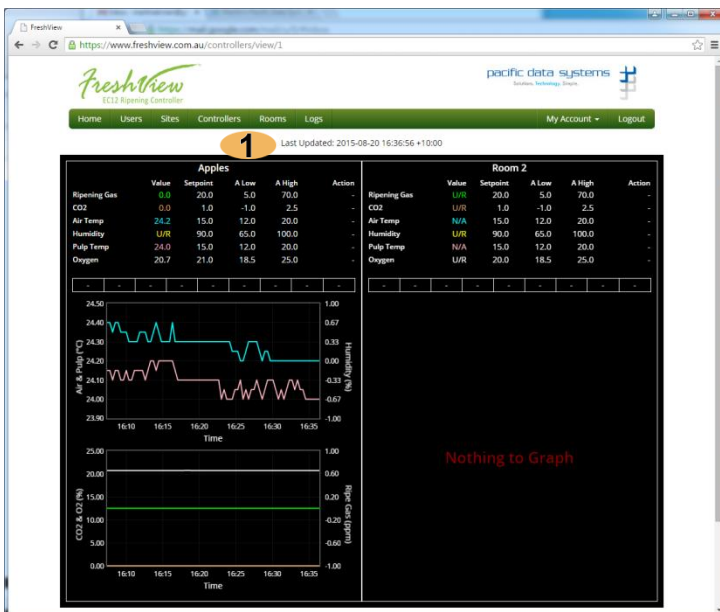

Figure 68: Controller view web page.
- 6 **View Controller:** View the controller, using the controller view page, see *Figure 68: Controller view web page.*